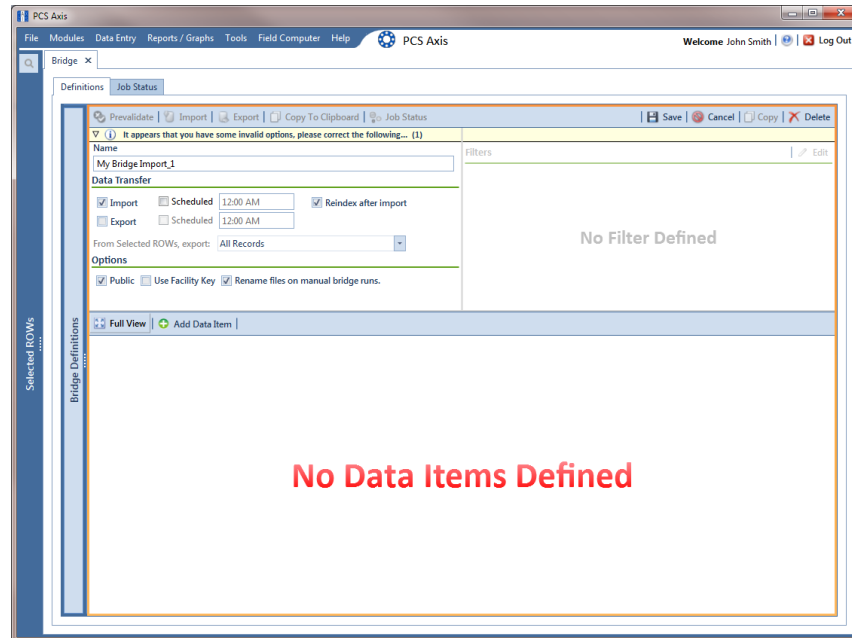

Figure 10-6. Bridge Import Definition
- 5 To set properties in the *Data Transfer* group box, follow these steps (Figure 10-6):
- 6 To set properties in the *Options* group box (Figure 10-6), follow these steps: